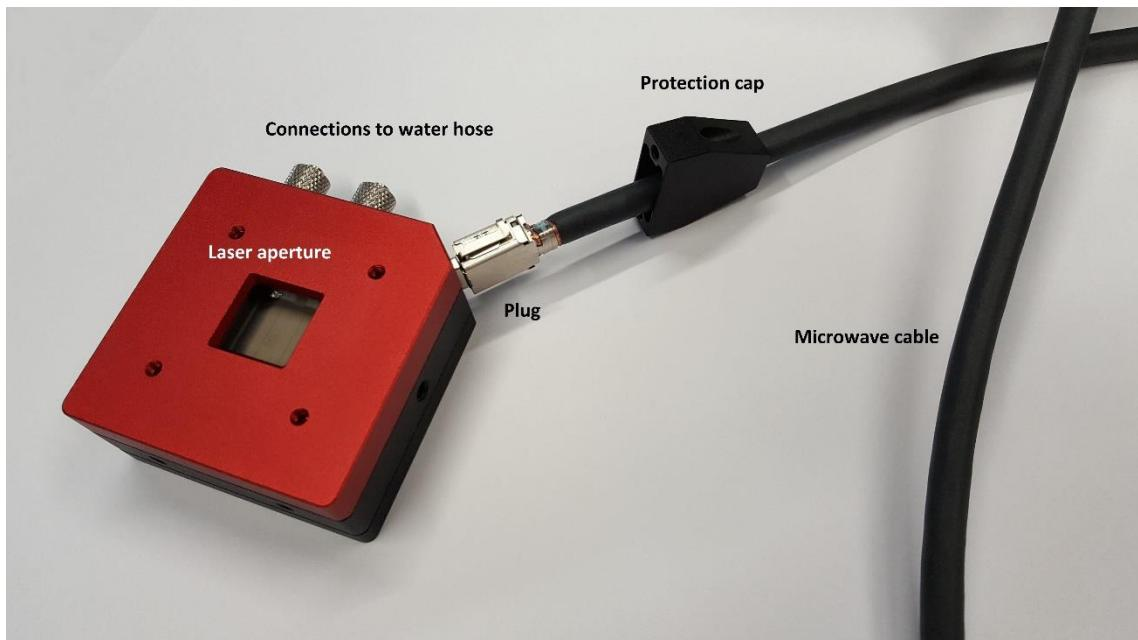

Figure 1: Blink HS sensor head with connection cable
WARNING: never touch the HS sensor head active area (accessible from Laser aperture, Figure 1)
1. Connect HS sensor head to water hoses, water flow according to specs (Figure 1)
2. Connect the cable 3 to the HS sensor head 1 (Figures 1 and 2)